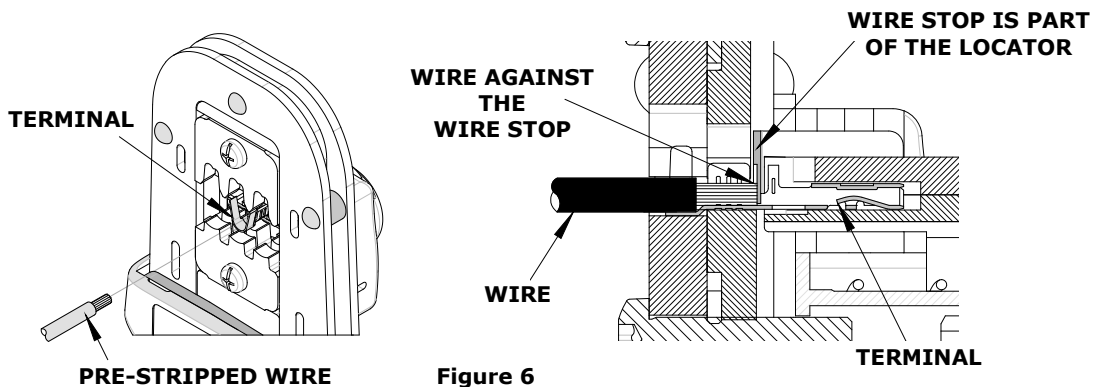

Figure 6
6. Insert the properly stripped wire through the terminal and against the wire stop. See Figure 6.